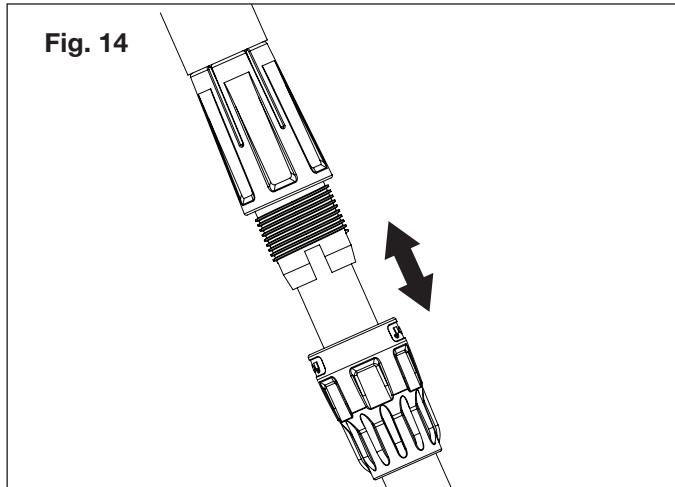

Fig. 14
3. Extend the telescoping pole to a comfortable height (Fig. 14).